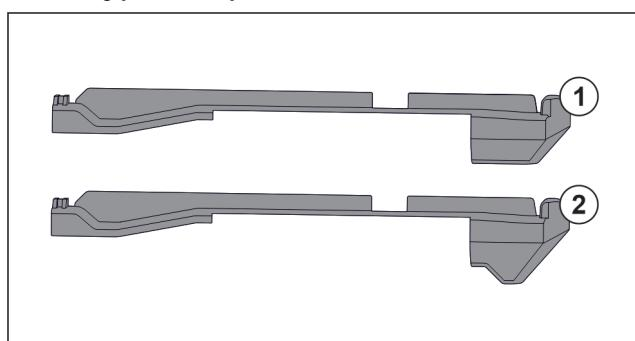

Fig. 126 Comparing attachments
There are two different attachments in the appliance. The attachment above the lowest drawer Fig. 126 (2) has a three-cornered edge. All other attachments Fig. 126 (1) have a straight edge.
- ▶ Fit attachment Fig. 126 (2) with the three-cornered edge above the lowest drawer.
- ▶ Fit attachment Fig. 126 (1) with straight edge in all other positions.